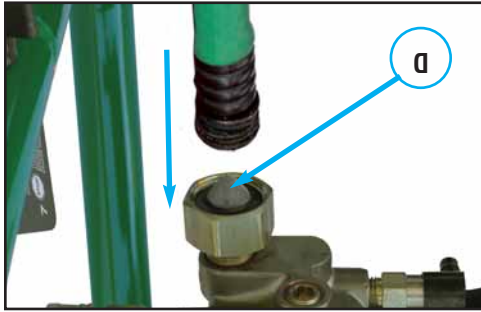

Figure 7
1. Inspect garden hose water inlet screen (D) for damage. See Figure 7. Clean screen if necessary. Refer to Operator's Manual for instructions.
3. Turn off water supply and attach garden hose to water inlet. Tighten by hand. See Figure 7.